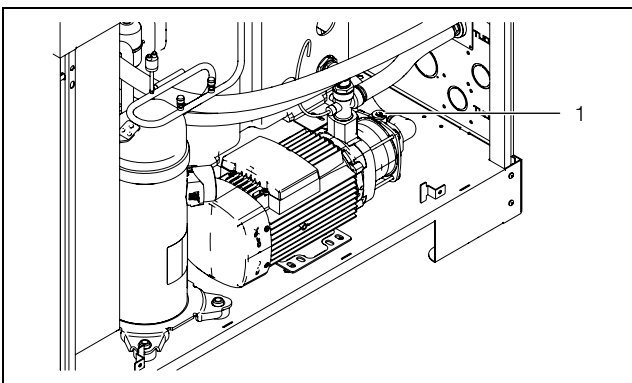

Fig. 26: Bleeding the cooling medium pump
- Bleed the cooling medium pump (with the system at a standstill) by loosening the vent screw (fig. 26, item 1). As soon as cooling medium escapes from the vent screw, bleeding of the pump is complete.